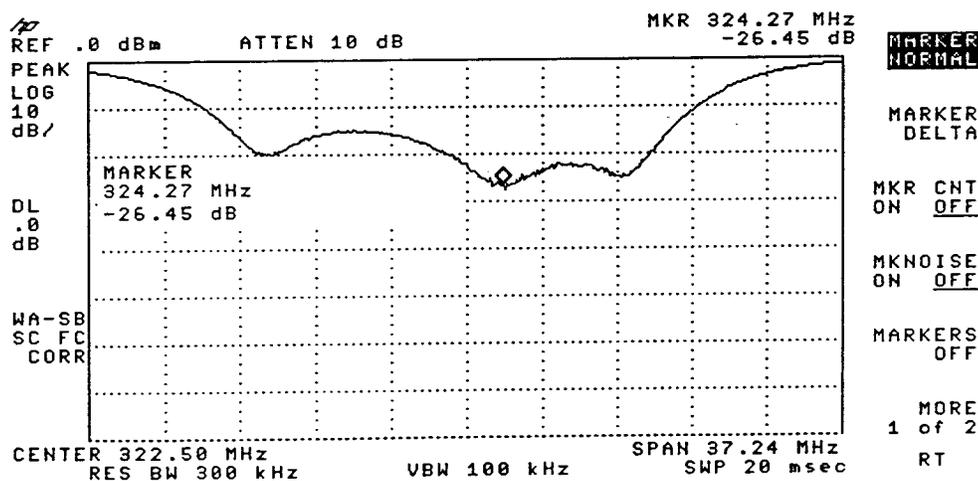

Figure 2-48. Measuring the Return Loss of the Filter.
8. Use the marker to read return loss. Press **MKR** and position the marker with the knob to read the return loss at that frequency. See Figure 2-48.